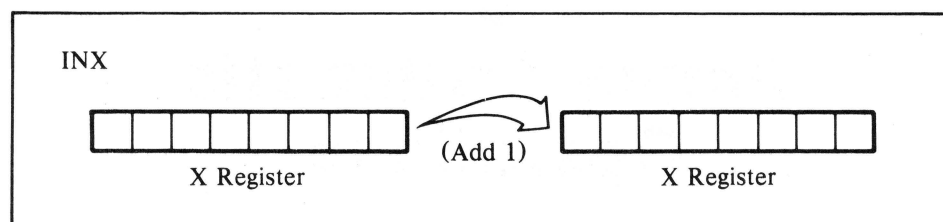

Figure 9-2. Increment X register quantity
- **INX** — Increments the quantity in the X register (see Figure 9-2).